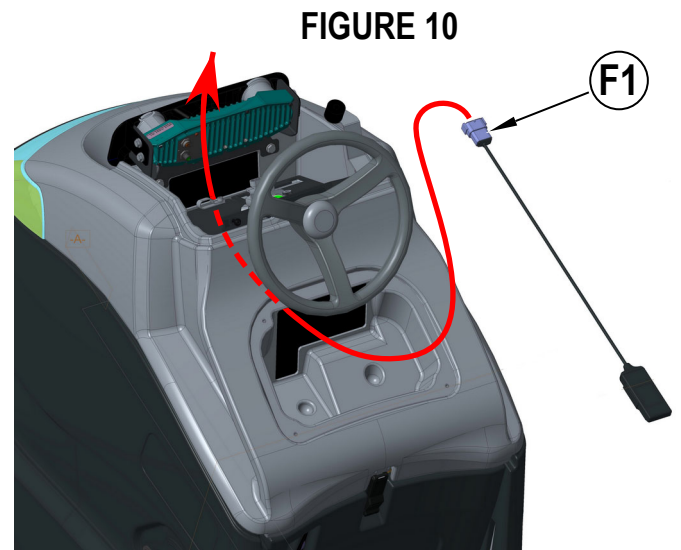

FIGURE 10
19. **SEE FIGURES 10 & 11A.** Feed TrackClean harness into opening and navigate the Connector (F1) into electrical area (autonomy bay).